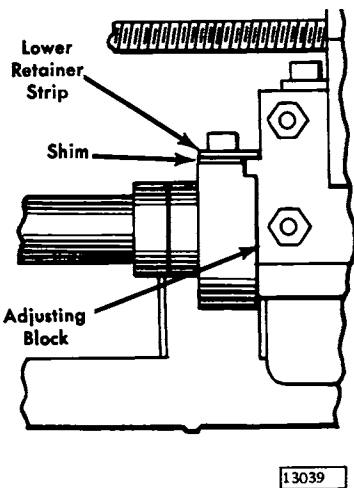

Figure 4-20. Retaining Strip
4. The adjusting block is also held in position by two retainer strips, which have a 0.002" maximum clearance to the adjusting block (Figure 4-20). Shim as required.